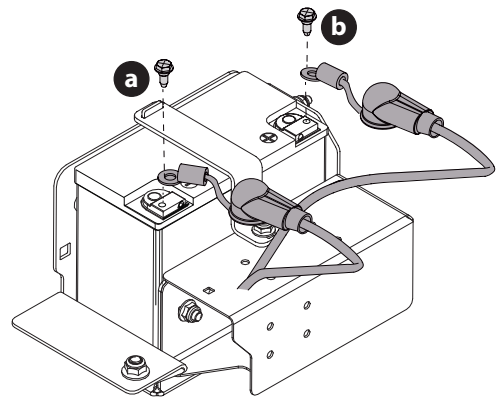

Fig. 36
2. Remove the vertical mount bolt securing the black negative battery lead (a) to the negative battery post (marked NEG (-)). Move the cable away from the negative battery post (Fig. 36).
3. Remove the vertical mount bolt securing the red positive battery lead (b) to the positive battery post (marked POS (+)). Move the cable away from the positive battery post (Fig. 36).